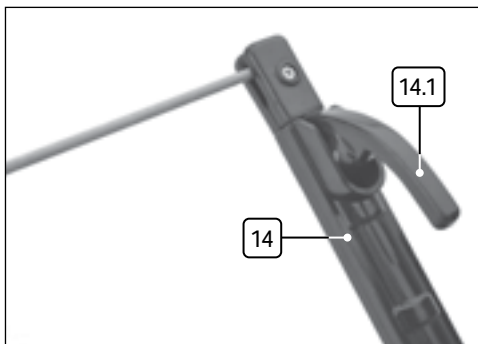

Fig. 13
- Fig. 13
- Select the electrode suitable for the application and insert into the electrode holder (14) while pressing lever (14.1).